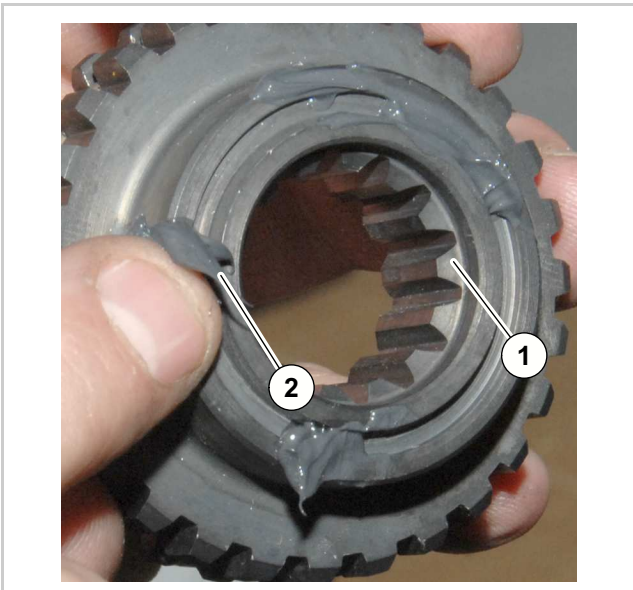

Fig. 40 (26531-01)
3. Lubricate the spring groove (1, Figure 40) in the brake hub with grease (2).